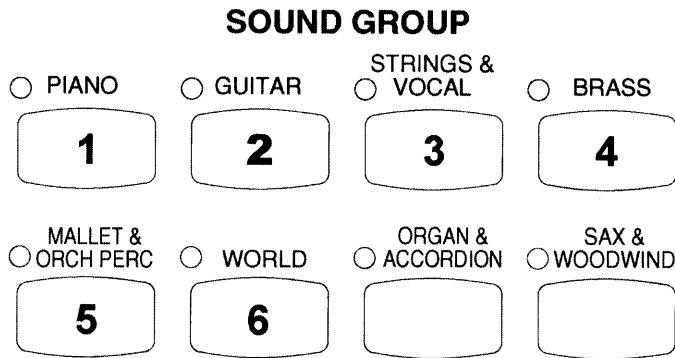

Figure-35
- Use the button in the SOUND GROUP to select an item from 1 to 6 as shown in Figure-35. Press a keyboard key.